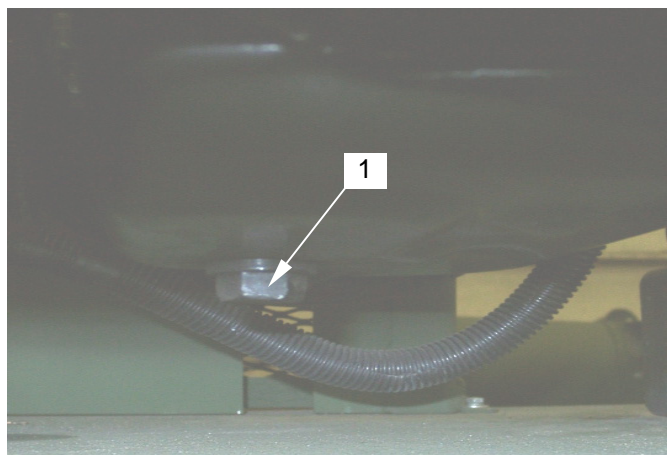
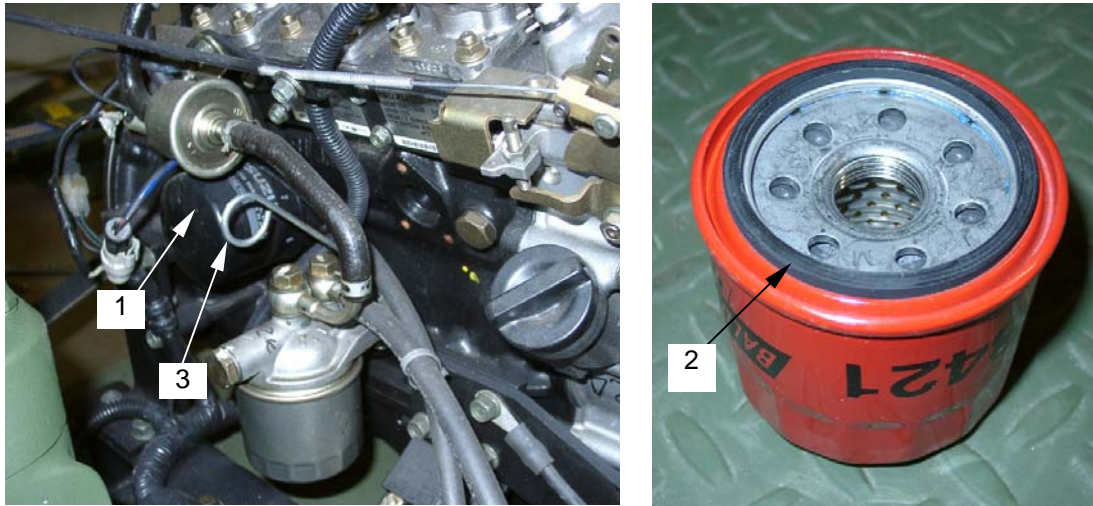

Figure 4. Oil Drain Plug
Figure 5. Oil Filter
- c. Remove the oil pan drain plug (**figure 4, item 1**) and drain the engine oil completely into an approved drip pan as regulated waste.
- d. Using oil filter wrench, loosen and remove oil filter (**figure 5, item 1**). Discard of old filter in an approved container.
- e. Apply light coat of engine oil to the new oil filter O-ring (**figure 5, item 2**).
- f. Hand tighten the new filter (**figure 5, item 2**) until its sealed face comes in contact with the O-ring.
- h. Reinstall oil drain plug (**figure 4, item 1**).
- j. Wait approximately fifteen minutes until the oil reaches the pan. Check oil level with dipstick (**figure 5, item 3**) for proper oil level as marked.
- l. Start the engine and check for oil leakage from the oil filter (**figure 5, item 1**) and drain plug (**figure 4, item 1**).